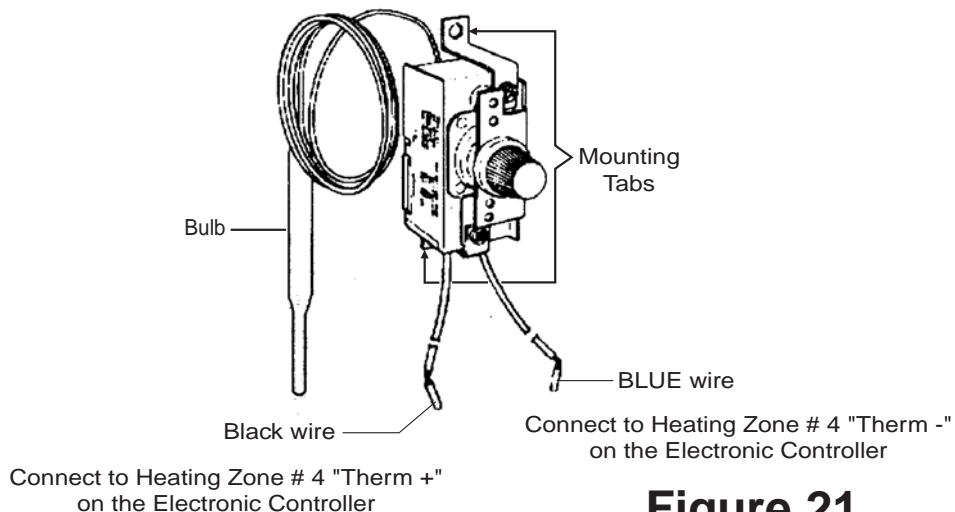

Figure 21
1. Only the "Bulb" of the Low-Temp Thermostat needs to be physically mounted in the area requiring heat. The Thermostat body can be mounted remotely for easy operator access, see figure 21.
3. Connect both wires to the appropriate leads of the Low-Temp Thermostat, see Figure 21.
4. Permanently mount the Low-Temp Thermostat in place, see Figure 21.